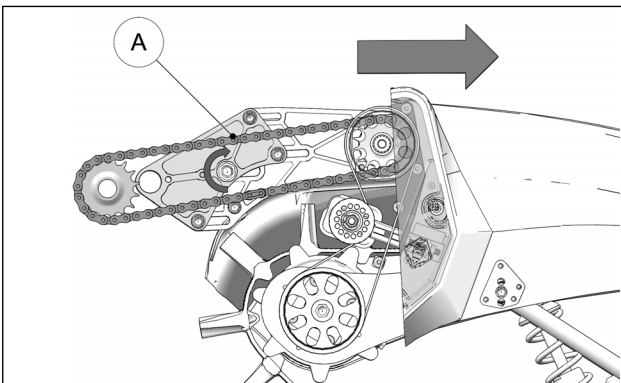

Figure 47
If the chain is adjusted to the highest tension setting (A) and the required 3 - 6 mm amount of play (1/8-1/4 in.) cannot be obtained at mid-point (B) between the sprockets, the chain should be replaced. See Figure 47.